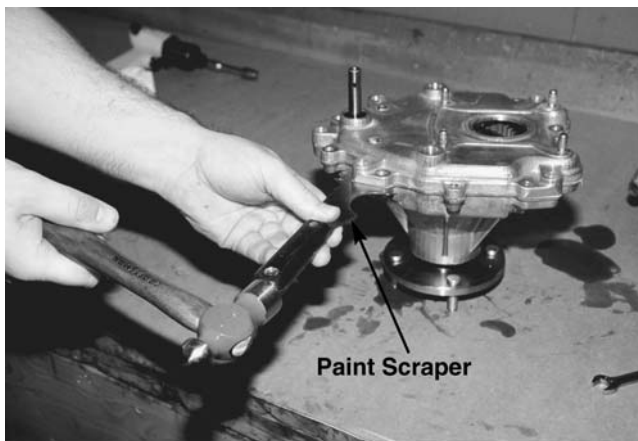

Figure 10-47.
7. To separate the housing halves, use a paint scraper or similar tool to pry the halves apart. Work around the housing to evenly release the housing halves. See Figure 10-47.